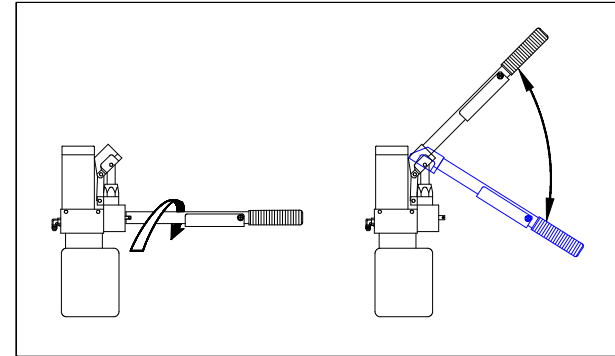

FIGURE 2-11: CLOCKWISE CLOSES RELEASE VALVE
- a. Refer to **Figure 2-11**. Engage pump release valve with pump handle, being certain that notches in handle fully engage the stem of the release valve. Turn valve lightly **CLOCKWISE** to verify that valve is closed (valve should have been closed previously). Remove handle.
- c. Refer back to **Figure 2-11**. Insert handle into backup pump socket, then pump handle to raise platform to floor height.
- a. Refer to **Figure 2-11**, previous page. Verify that rollstop is up (closed). Pull rollstop control knob OUT and rotate COUNTER-CLOCKWISE, if it isn't up. Follow the Safety Precautions at the beginning of this chapter if transporting a passenger from vehicle to ground.
- 1) Refer to **Figure 2-11**. Verify that pump pressure release valve is closed (CW). Raise or lower the platform to stow height; the lifting frame arms will be parallel to the side of the platform when the platform is at the correct stow height. A slightly low platform is preferred to slightly high, if the exact height cannot be obtained.